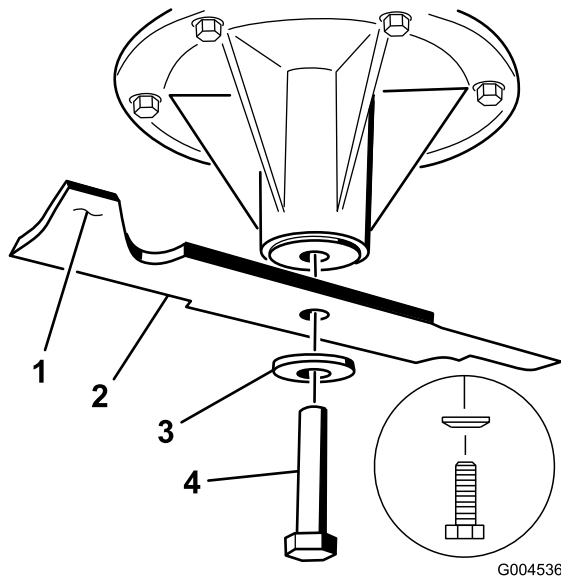

Figure 99
the sail area only (Figure 99). Repeat this procedure until the blade is balanced.
1. Install the blade onto the spindle shaft (Figure 99).
2. Install the spring disk and blade bolt. The spring disk cone must be installed toward the bolt head (Figure 99). Torque the blade bolt to 85-110 ft-lb (115-150 N-m).